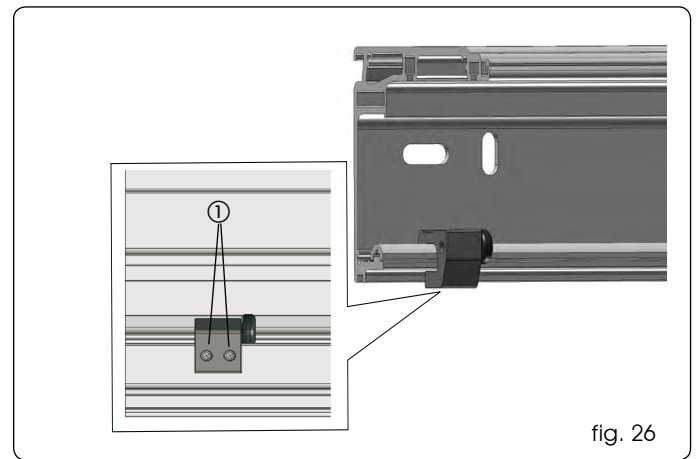

fig. 26
loosen the locknuts of the mechanical stops (fig. 26 ref. ①) and take the stops to the ends of the header.